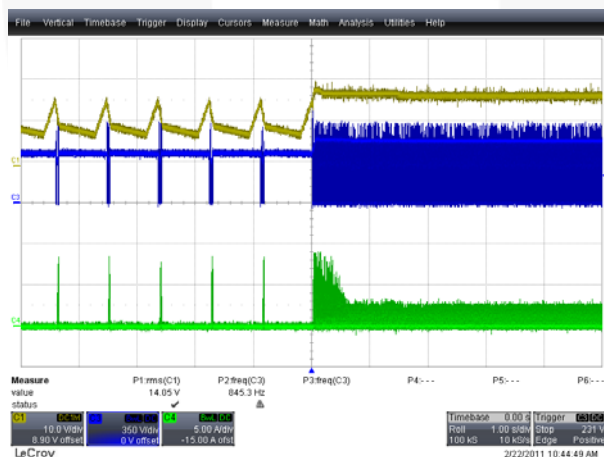
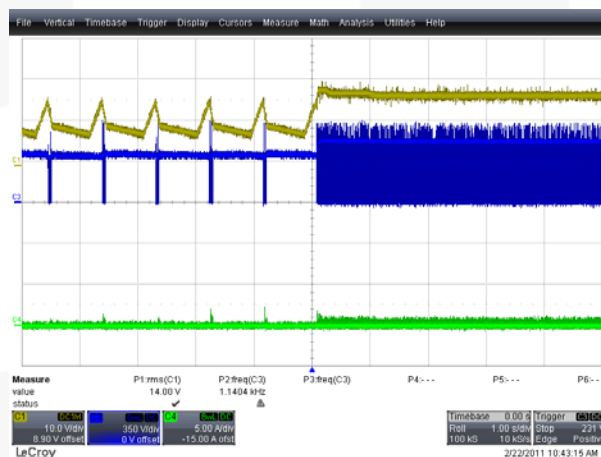

Figure 45. 90V_{AC} / 60Hz, CH1 (Yellow): V_{CC}(QR), CH3 (Blue): V_{DS}(QR), CH4 (Green): I_{DS}(QR)
Figure 46. 277V_{AC} / 60Hz, CH1 (Yellow): V_{CC}(QR), CH3 (Blue): V_{DS}(QR), CH4 (Green): I_{DS}(QR)
Figure 45 and Figure 46 show the V_{DS} and I_{DS} waveforms of the MOSFET (QR) when short circuits at output load were removed.